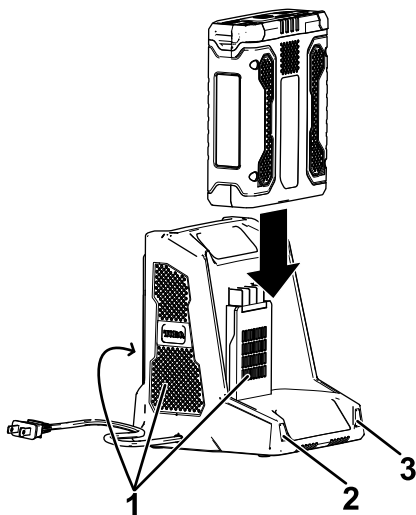

Figure 9
4. Slide the battery pack into the charger until it is fully seated (Figure 9).